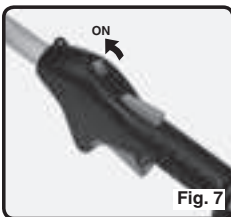

Fig. 7
2. Move the Ignition Switch to the "ON" position (see Fig. 7).